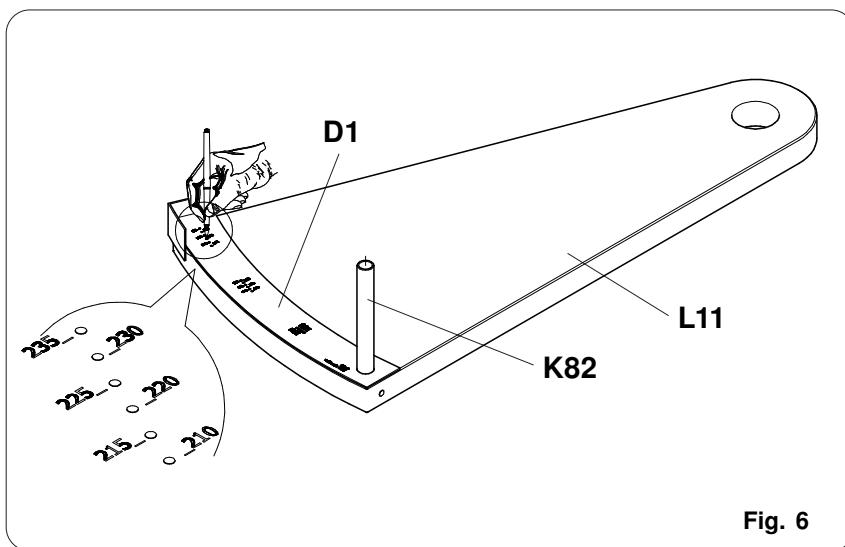

Fig. 6
- Insert the **K82** reference pin into the existing hole. Place the **D1** template on the **L11** step by referring to the pin described above and the two opposite sides of the step as shown in fig.6. Small holes are present on the drilling template reporting the size of the "A" rise to which they refer. Identify the value of the "A" rise on the template and trace only the last point where the step needs to be drilled to be anchored to the column as shown in fig. 6.